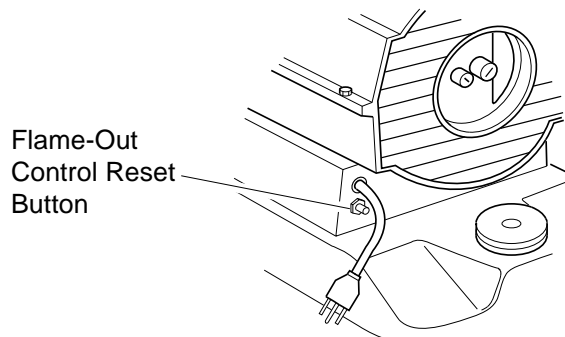

Figure 3 - Flame-Out Control Reset Button
5. Plug extension cord into standard 120 volt/60 hertz, three-hole, grounded outlet. Heater will start when extension cord is plugged into outlet. If not, push in flame-out control reset button (see Figure 3).